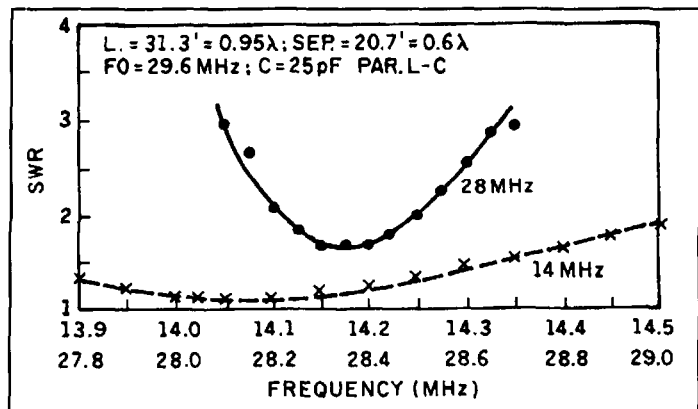

Figure 5. SWR as a function of frequency for antenna E (see Table 1).
**Antennas E and F.** See Figures 5 and 6 for plots of the SWRs versus frequency. To my knowledge, no one has built a double-resonant antenna with a resonator separation of more than 0.5 wavelengths. I decided to try 0.6 on the computer, and I received a pleasant surprise. For one thing, I discovered that the reactances are those of a Type 3 antenna, with which the use of either series or parallel L-C circuits can produce double resonance. Antenna E uses parallel circuits, while F uses series circuits. I also found that radiation resistances aren't far from 50 ohms. Therefore it is possible to get fairly good impedance matches at both frequencies. However, partly because of different coil losses, they have different frequency responses and gains. The series configuration does have one disturbing feature: the discrepancy between the theoretical and experimental values of the resonator capacitances. Some of this is due to the distributed capacitance of the insulator—about 1 pF. In the parallel case, this is fairly small compared to a capacitance of 25 pF, and you can neglect it with fair conscience. However, the 1 pF insulator has a reactance of about  $-5 \text{ k}$  at 28 MHz, which is appreciable compared to the desired reactance of 1.8 k. Furthermore, calculations show that, with the series connection, it is somewhat sensitive: small changes in the length cause large changes in the capacitances and the resonant frequencies of the L-C circuits. End corrections can be sources of such errors. As a check, I inserted inductors alone to make this a single-band 28-MHz antenna. The required inductances were about 600 ohms instead of the 1.8 k predicted by the theory. This is the only case where I have observed a serious discrepancy between theory and experiment. The inductors for the series configuration F have 12 turns of no. 20 plastic insulated wire on 1.25-inch diameter forms (4.23  $\mu\text{H}$ ), while the parallel configuration E needs inductors of 1.16  $\mu\text{H}$ .